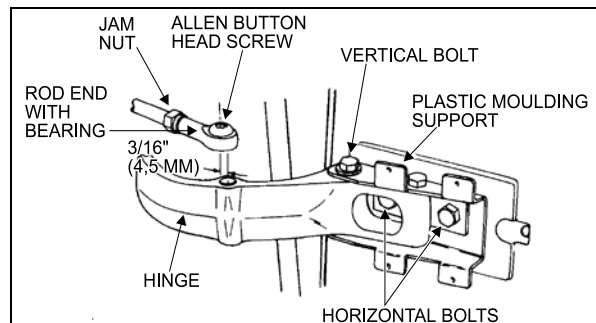

FIGURE 27: UPPER DOOR HINGE
- Remove the Allen button head screw and the washer retaining the rod end with bearing to the upper hinge. See Figure 27.